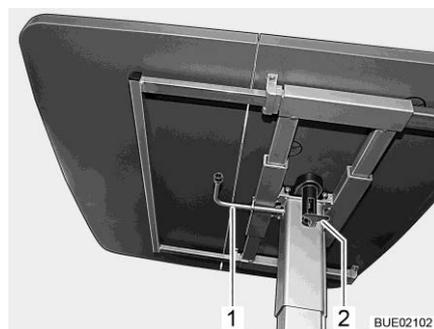

Fig. 130 Lift-off table
- Fold down the catch lever (Fig. 130,2).
- Swivel the lever (Fig. 130,1) underneath the table top by 180° in a clockwise direction. The lifting mechanism in the table leg is unlocked.
- Swivel the lever (Fig. 130,1) underneath the table top by 180° in a clockwise direction. The table top moves automatically upwards to the limit stop.